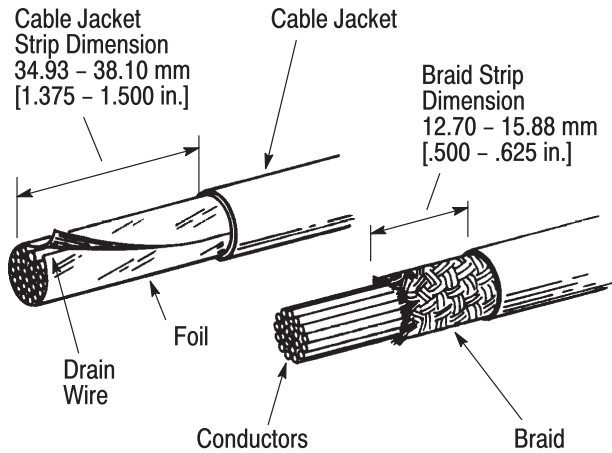

Figure 2
1. Strip the cable jacket 34.93 to 38.10 mm [1.375 to 1.500 in.] from the end of the cable, taking care not to nick or cut the internal shielding or conductor insulation. See Figure 2.